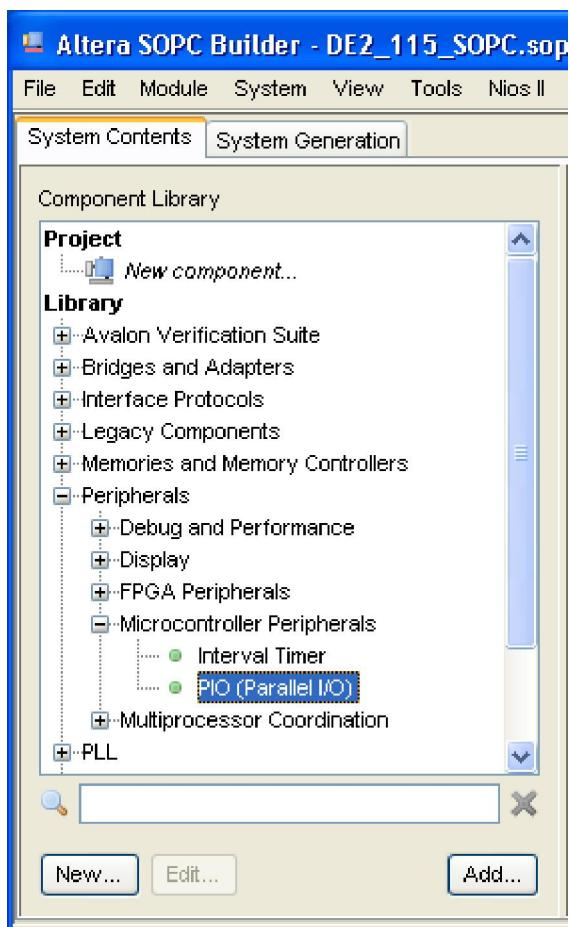
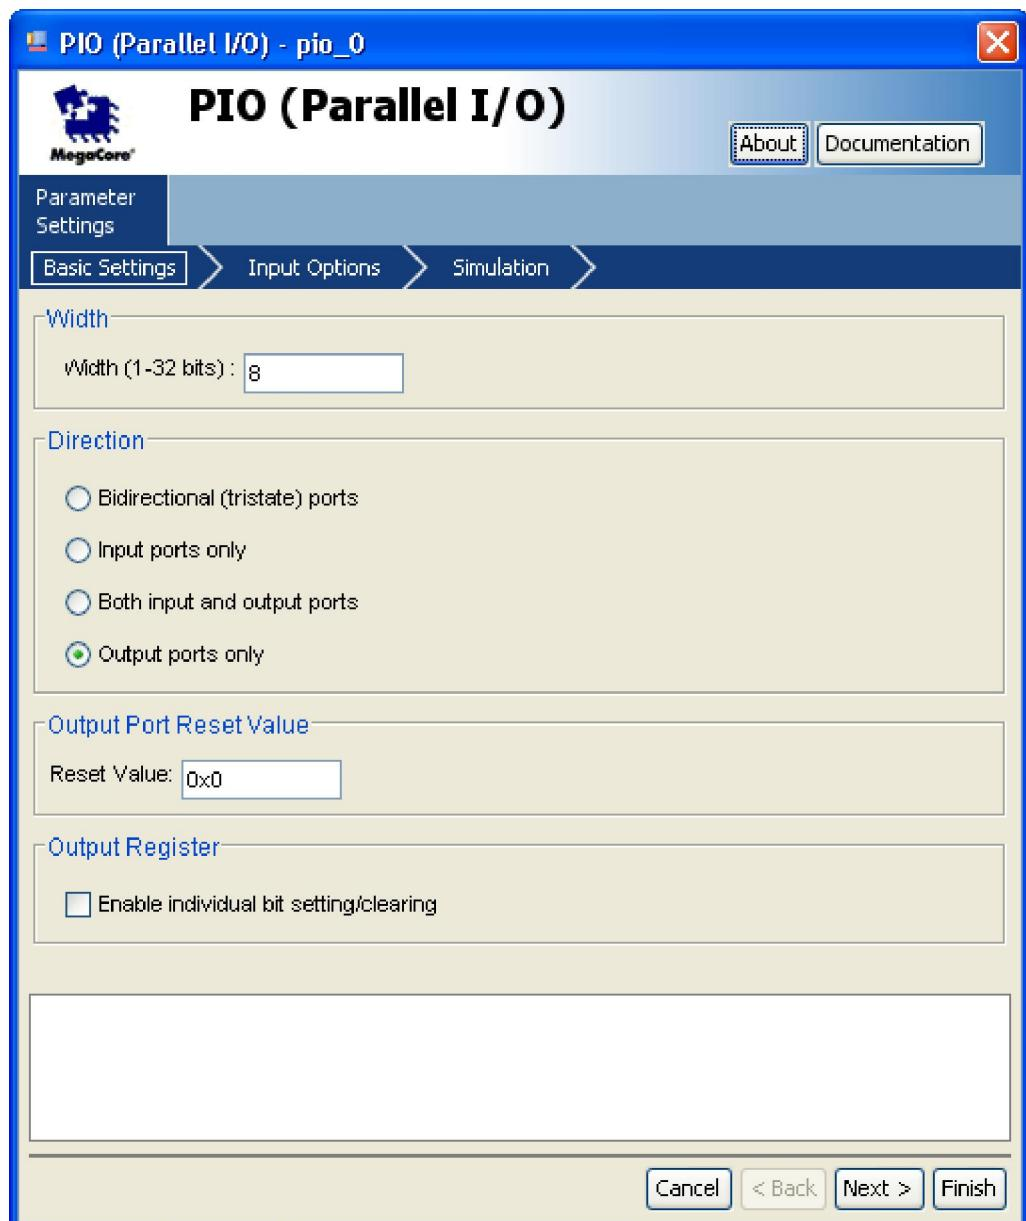

Figure 1-30 Add PIO
Figure 1-31 Add PIO
19. Choose **Library > Peripherals > Microcontroller Peripherals >PIO (Parallel I/O)** to open wizard of adding PIO. See **Figure 1-30** and **Figure 1-31**.